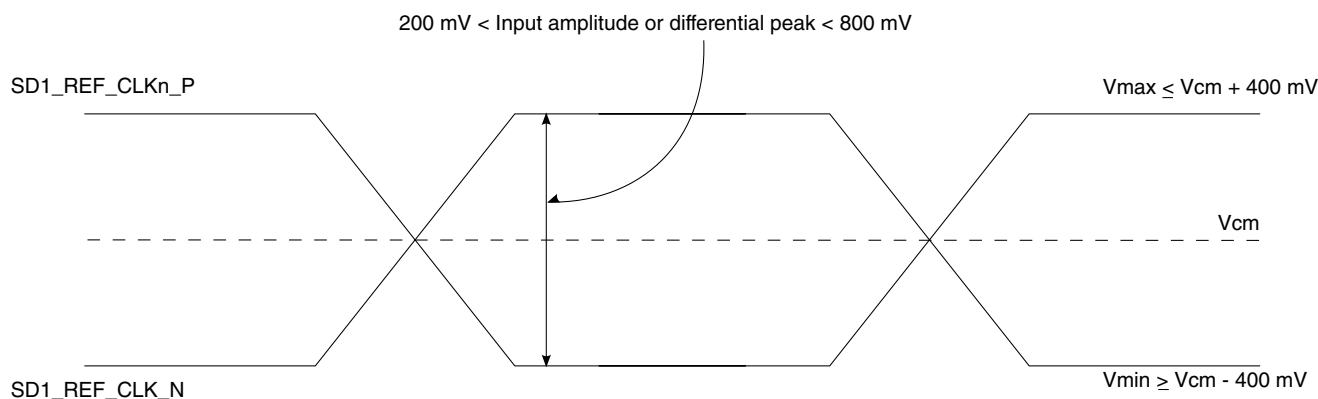

Figure 65. Differential reference clock input DC requirements (external AC-coupled)
- For an external AC-coupled connection, there is no common mode voltage requirement for the clock driver. Because the external AC-coupling capacitor blocks the DC level, the clock driver and the SerDes reference clock receiver operate in different common mode voltages. The SerDes reference clock receiver in this connection scheme has its common mode voltage set to SGNDn. Each signal wire of the differential inputs is allowed to swing below and above the common mode voltage (SGNDn). Figure 65 shows the SerDes reference clock input requirement for AC-coupled connection scheme.